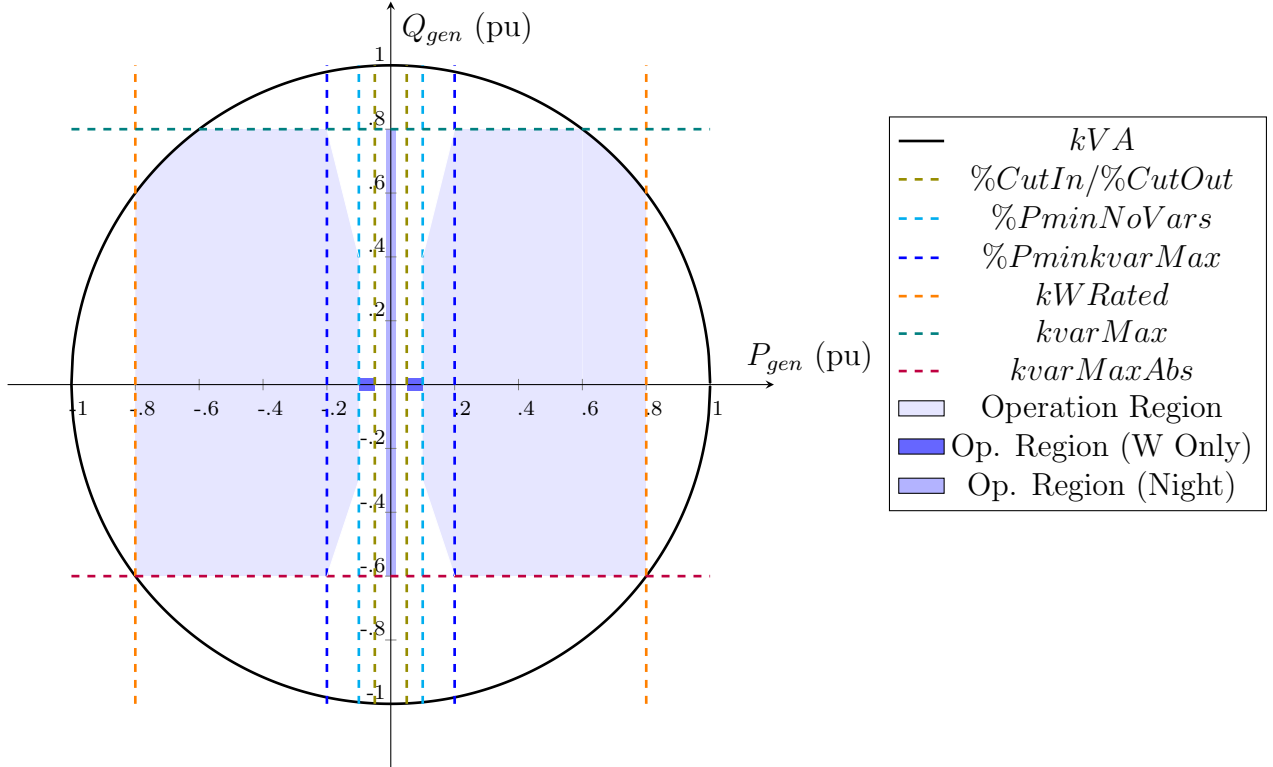
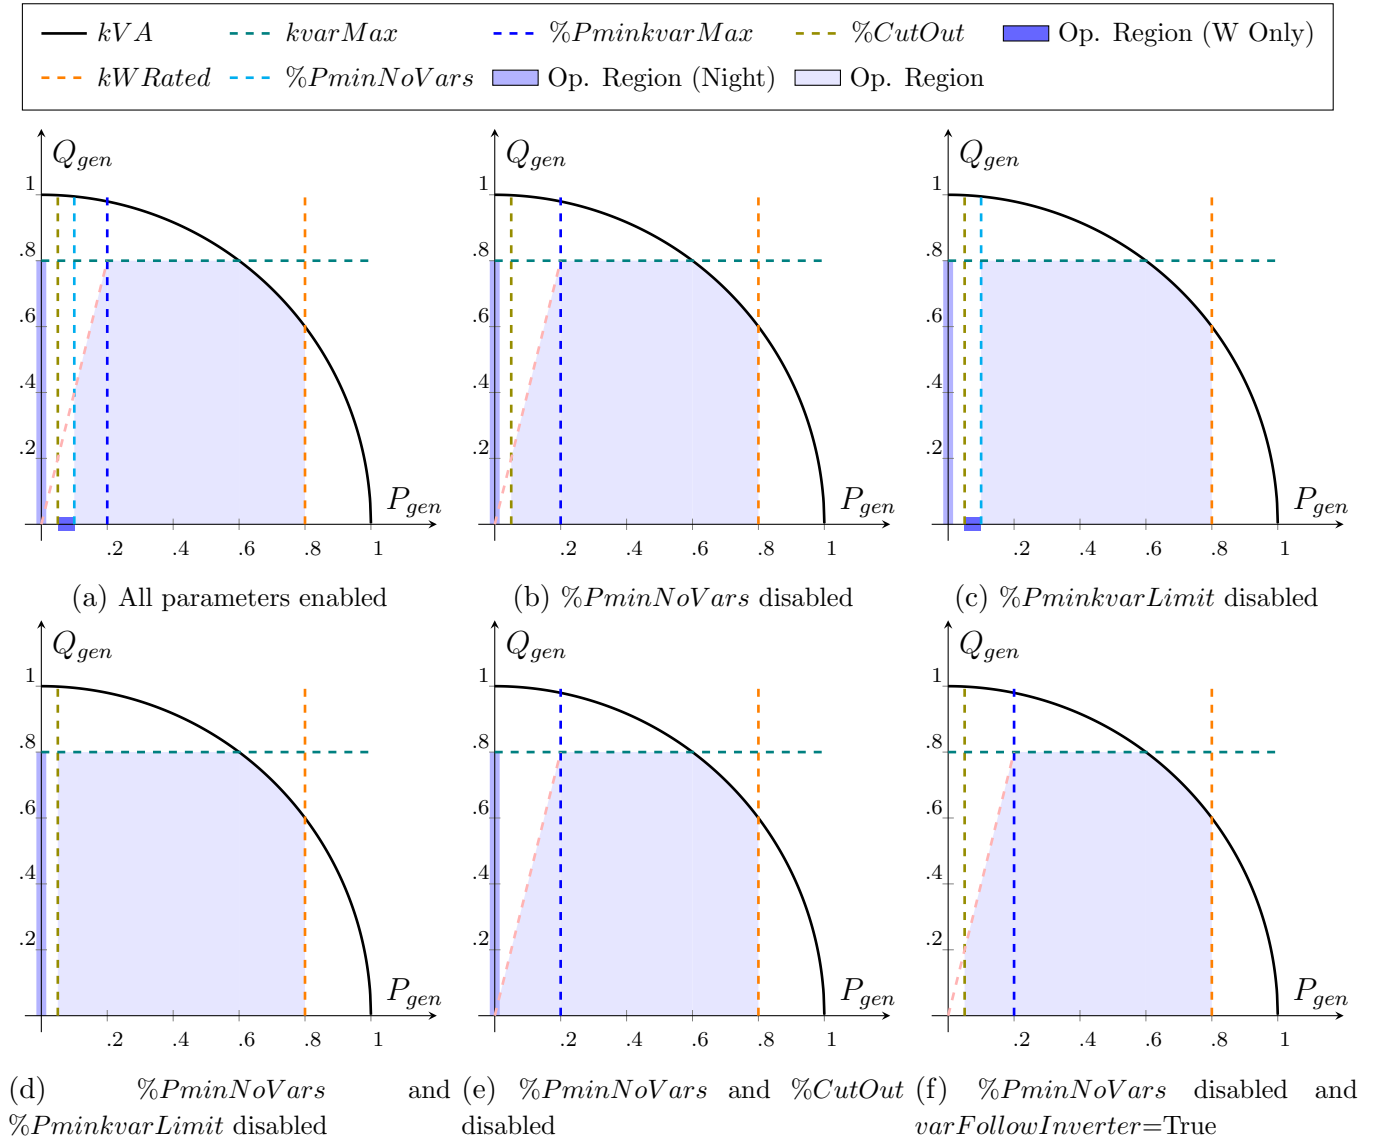

Figure 2: General Inverter Capability Curve
Figure 3: Possible Shapes for Inverter Capability Curve
The most flexible inverter capability curve is presented in Figure 2. All measures are on the AC side of the inverter. Note that %CutIn and %CutOut have been assumed equal. If that's not the case, once the inverter is on, only %CutOut is considered.
- *%CutIn* [unit-less]: cut-in power as a percentage of inverter kVA rating. It is the minimum DC power necessary to turn the inverter ON when it is OFF. Must be greater than or equal to *%CutOut*. Defaults to 2 for PVSystems and 0 for Storage elements which means that the inverter state will be always ON for this element. *%CutIn* in Figure 2 represents the specified *%CutIn* adjusted by inverter losses, i.e., the equivalent *%CutIn* at the AC side of the inverter.
- *%CutOut* [unit-less]: cut-out power as a percentage of inverter kVA rating. It is the minimum DC power necessary to keep the inverter ON. Must be less than or equal to *%CutIn*. Defaults to 2 for PVSystems and 0 for Storage elements which means that, once ON, the inverter state will be always ON for this element. *%CutOut* in Figure 2 represents the specified *%CutOut* adjusted by inverter losses, i.e., the equivalent *%CutOut* at the AC side of the inverter.
As mentioned earlier, Figure 2 shows the inverter capability curve resulting from the use of all possible properties. In order to generate simpler curves, OpenDSS allows some of the properties to be disabled. Figure 3 describes possible modifications to the capability curve by enabling/disabling the *%PminNoVars*, *%PminkvarLimit* and *varFollowInverter*. For simplicity, the resulting capability curve is shown for operation in first quadrant only (the disabling of any parameter also affect the capability curve in the other quadrants). Note that *%CutOut* and *varFollowInverter* can also be disabled.